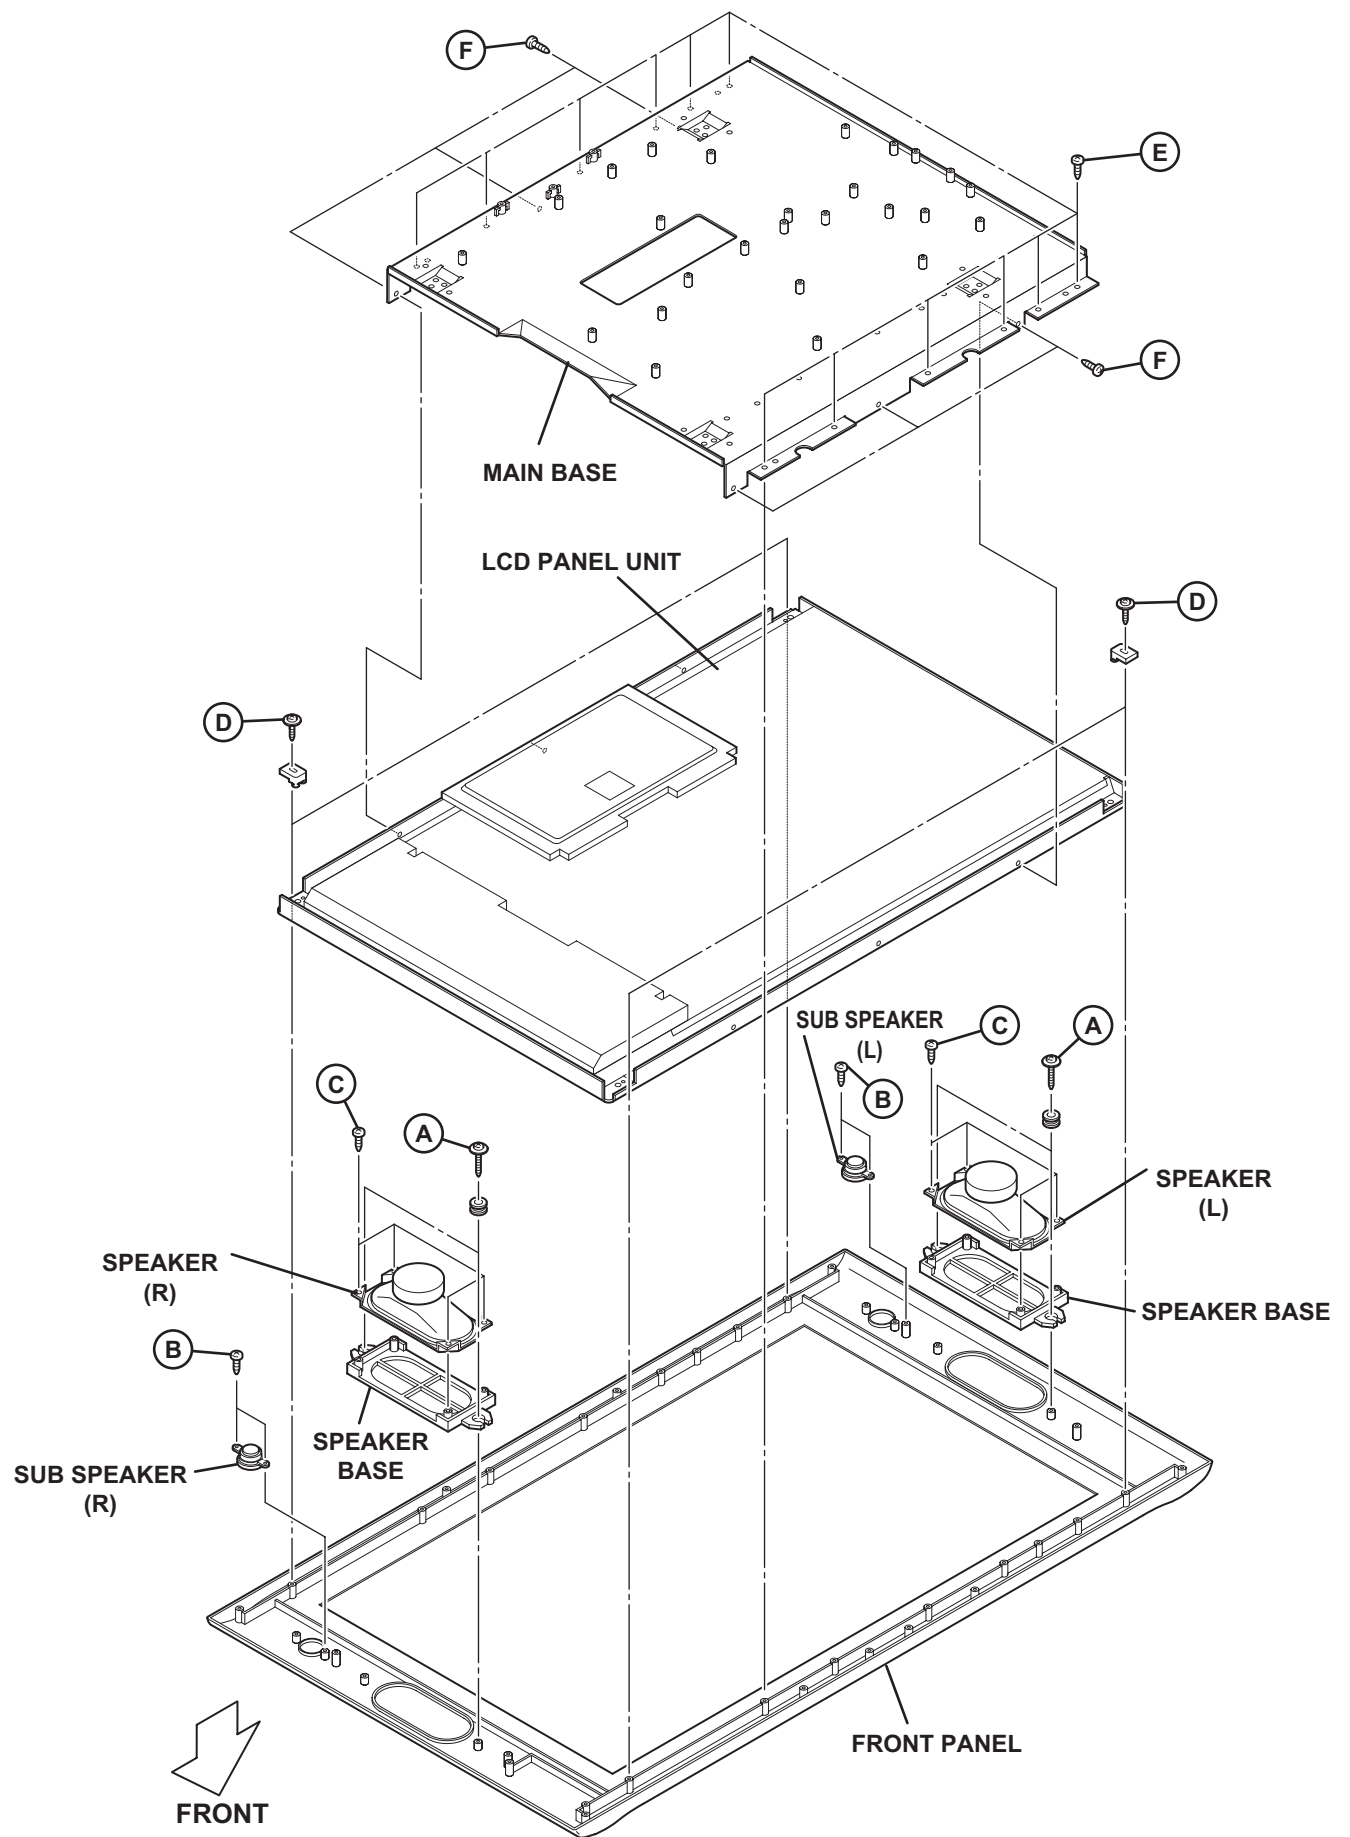

Fig.2
3.1.11 REMOVING THE SPEAKER (Fig.2)
3.1.12 REMOVING THE LCD PANEL UNIT (Fig.2)